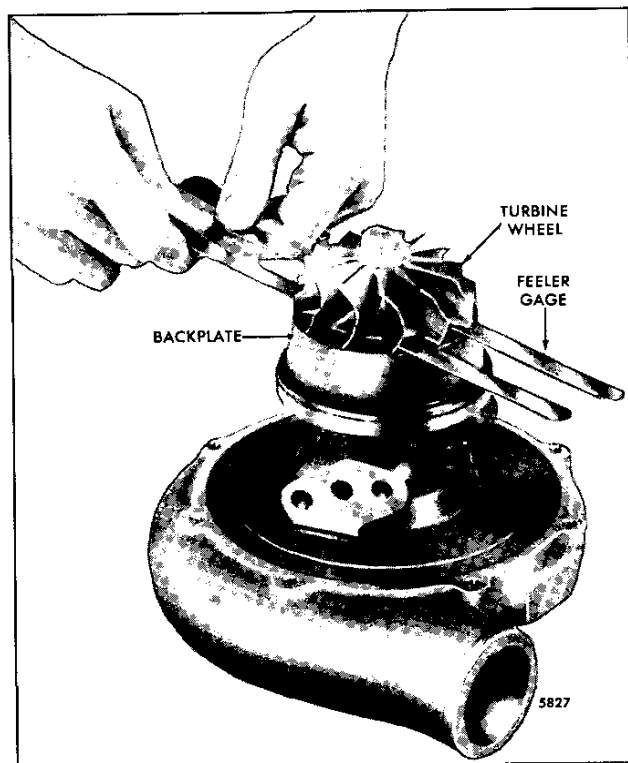

Fig. 19 – Checking Turbine Wheel to Backplate Clearance
19. Check the turbine wheel back clearance by placing two equal feeler gage stacks between the back face of the turbine wheel and the backplate on the opposite sides of the shaft (Fig. 19). Clearance must be .017" to .049". If clearance is not within limits, proceed as in Step 14 above.